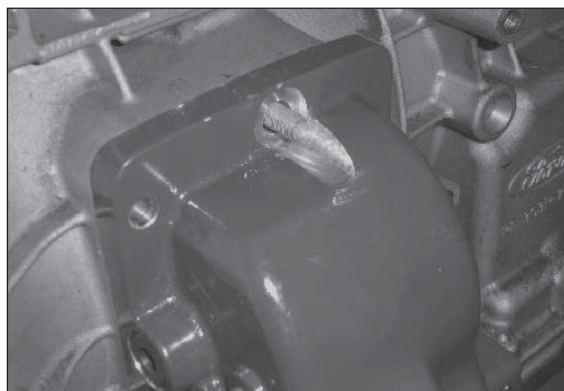

Figure 76
10. Mount the PTO to the transmission at this time by sliding the top PTO mounting hole w/ dowel pin over the shoulder stud. Guide other dowel pin into hole (**Fig. 76**).